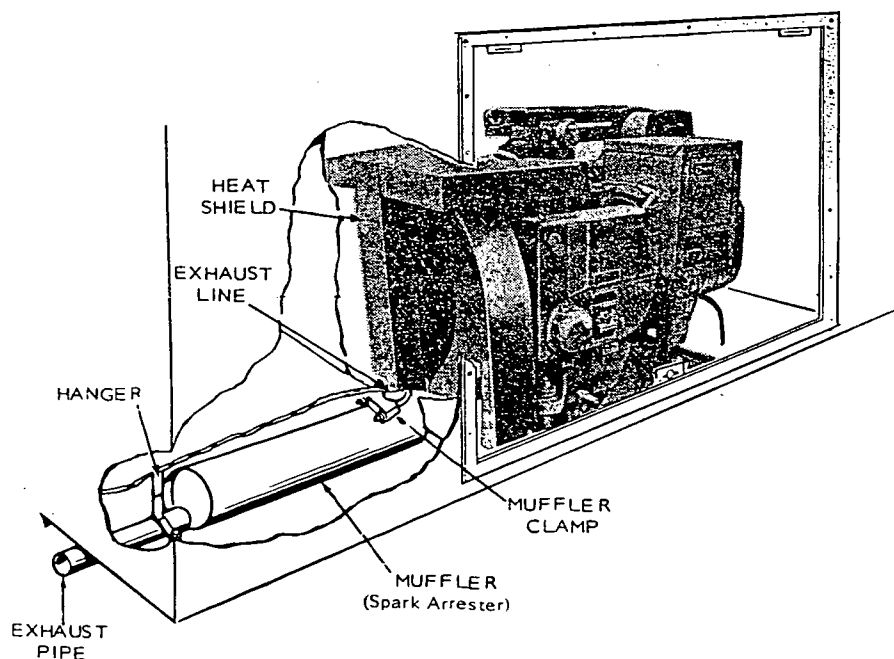

FIGURE 6. TYPICAL EXHAUST SYSTEM INSTALLATION.
1. Where the exhaust system passes through the base or floor, leave adequate clearance as protection against exhaust pipe damage from vibration (Figure 6). The metal around the hole should be turned up or some type of collar used to prevent gas or oil from draining onto hot exhaust parts.